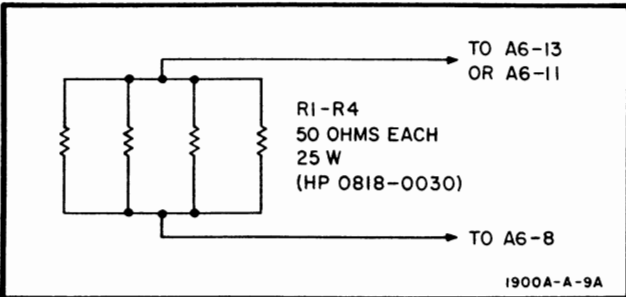

Figure 5-3. Dummy Load for ±25V Power Supply
a. Connect  $\pm 25$ -volt Power Supply Dummy Load, figure 5-3, between pin 8 and pin 13 of 15-pin Connector.